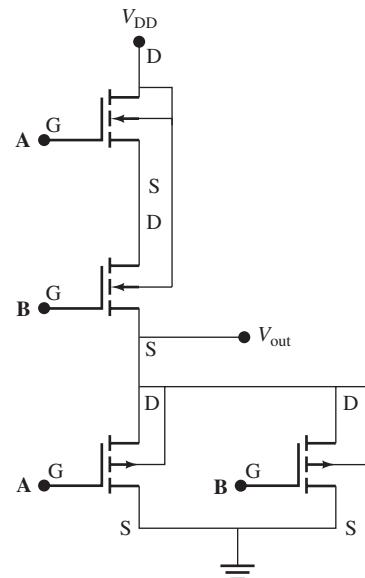

FIGURE P8.65 A CMOS circuit that functions as a gate.
- 8.65** (A) * Sketch the truth table of a two-input OR gate for the circuit shown in Figure P8.65. That is, determine the output voltage, V_{out} , in terms of inputs A and B when they are high (1) or low (0), for example, when both are 0, when both are 1, and when one is 0 and the other is 1. What is this operation?